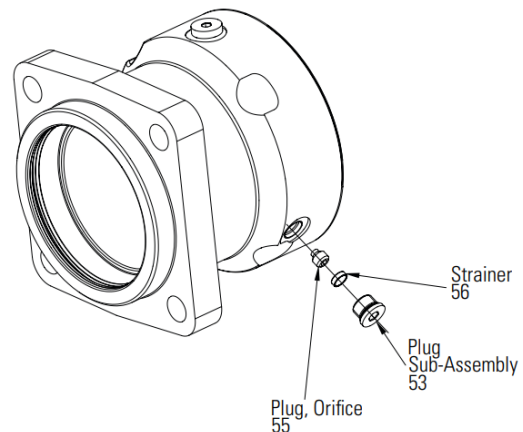

Figure 36
4. Replace plug w/o orifice with plug orifice and add strainer as shown in Figure 36